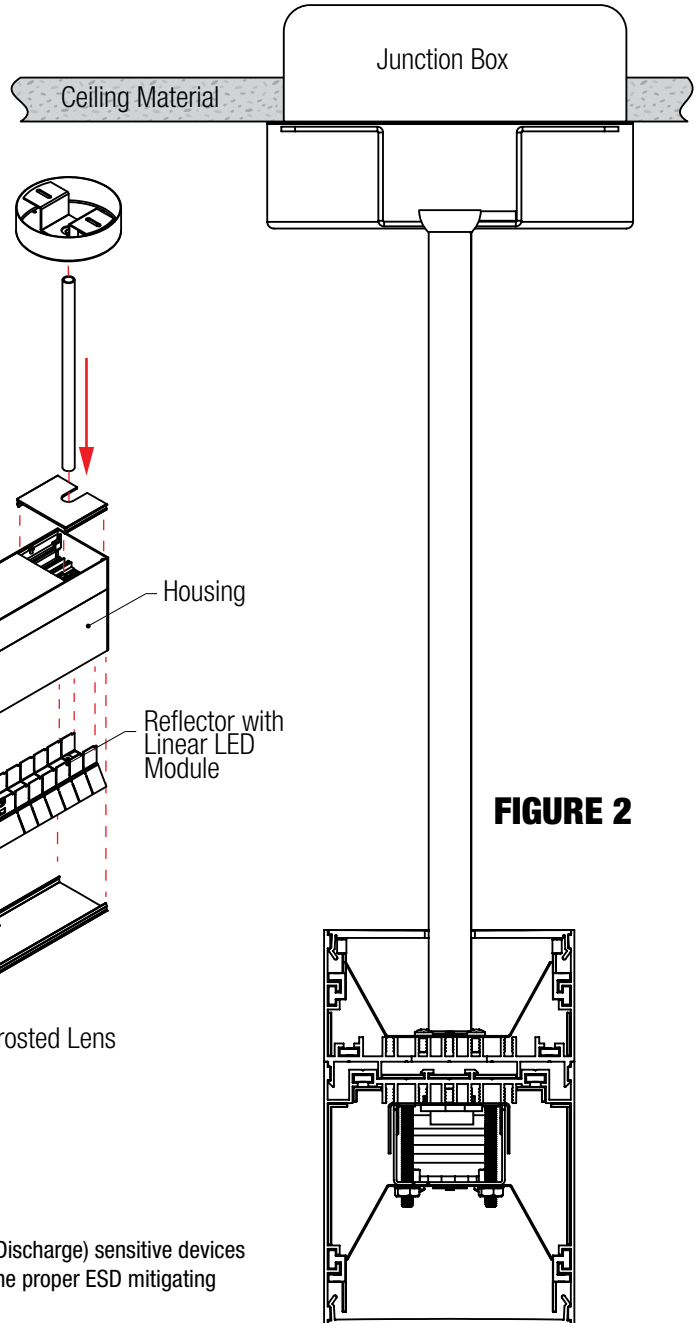

FIGURE 2
5. Fasten canopy over assembly to finish (*See Figure 2*).